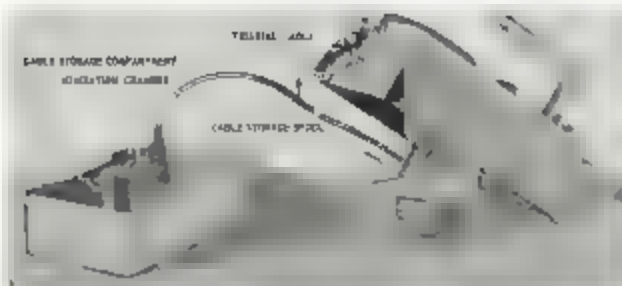

Figure 6 Remote Operation Using Cable Assembly
The detecting element in the CD V-717 is an hermetically sealed ionization chamber. This chamber is located in the front portion of the bottom case section of the instrument, as shown in Figure 6, to make the instrument nearly equally sensitive to radiation from the bottom and front. The ionization
- In order to rest the upper portion of the instrument on a table or the like, slide the cable through the slot in the flange of the cable storage spool and rest the rear of the boot covering the push-fit connector in the semi-circular cut out in the spool case. See Figure 6. This prevents sharp bends and provides a stable rest for the instrumenting portion of the instrument.